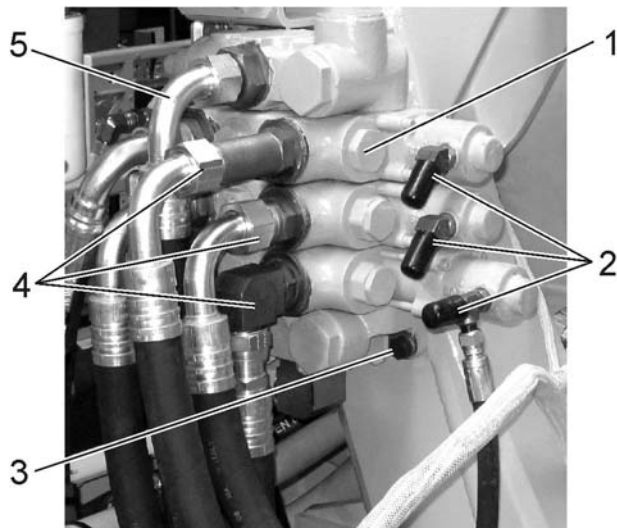

Fig. 10B.3. Control Valve Disconnect Points (L.H. Side)
10. Disconnect L.H. pilot hoses from connectors (2, Fig. 10B.3) or pilot hose (3, Fig. 10B.4) L.H. side from control valve (1).
11. Protect the control valve (1) with a wooden plank against gravitating. Remove three bolts and washers (3, Fig. 10B.2 and 3, Fig. 10B.3) securing valve to the ROPS bracket and remove it from machine using suitable hoist.